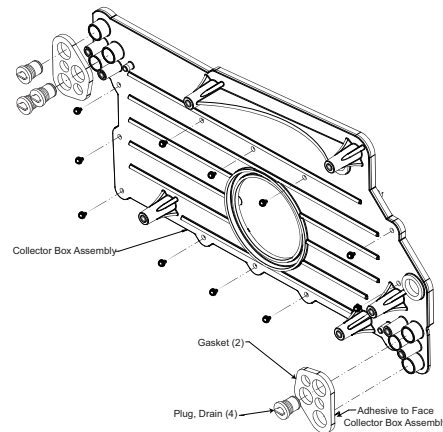

Fig. 4 - Collector Box Removal / Installation
- Remove the screws that secure the collector box to the heat exchanger cell panel and set aside. See Fig 4.